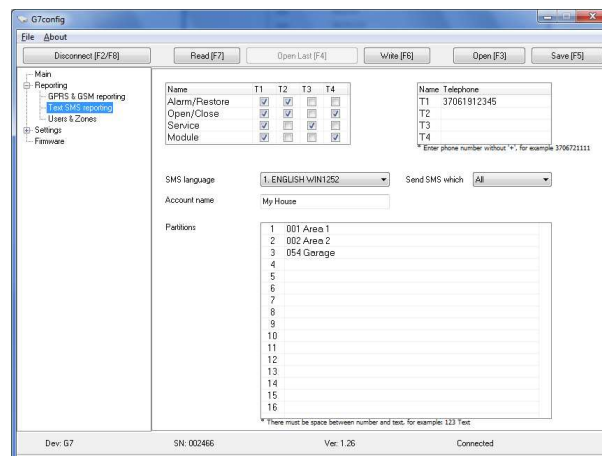

Figure 13 View of window *Text SMS reporting*
- 7.1.11 The window **Reporting/Text SMS reporting** (see *Figure 13*) is designed for entering parameters when G7 transfers alarm messages to mobile phone by text SMS.
In example (see *Figure 13*) all messages are transferred into the phone of subscriber **T1**; Security system alarms/restores and messages about its arming/disarming are transferred into the phone of subscriber **T2**; Security system service alerts only are transferred into the phone of subscriber **T3**; Messages about Security system arming/disarming along with module G7 operating alerts are transferred into the phone of subscriber **T4**.